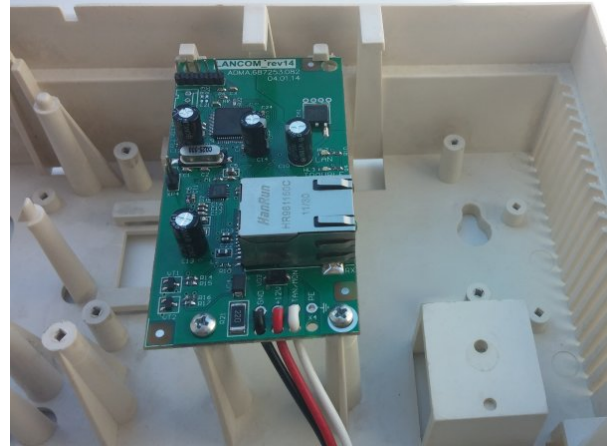

Figure 33. “LanCom” rev.14 communicator in the device housing
1. Place the communicator into the housing (Figure 33) and connect with the Control Panel board according to the diagram in Figure 43;